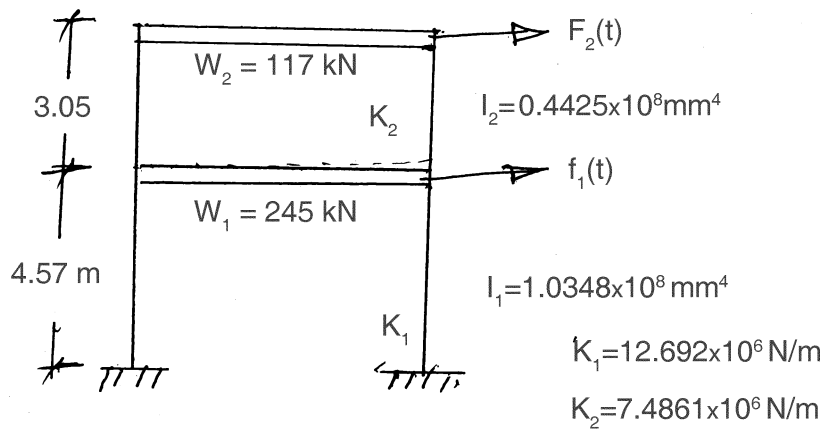

Figure 2. Q. 4)
4. A two storey frame subjected to forces as shown in figure 2. Determine the maximum floor displacement. Assume damping  $c = 2\%$ .